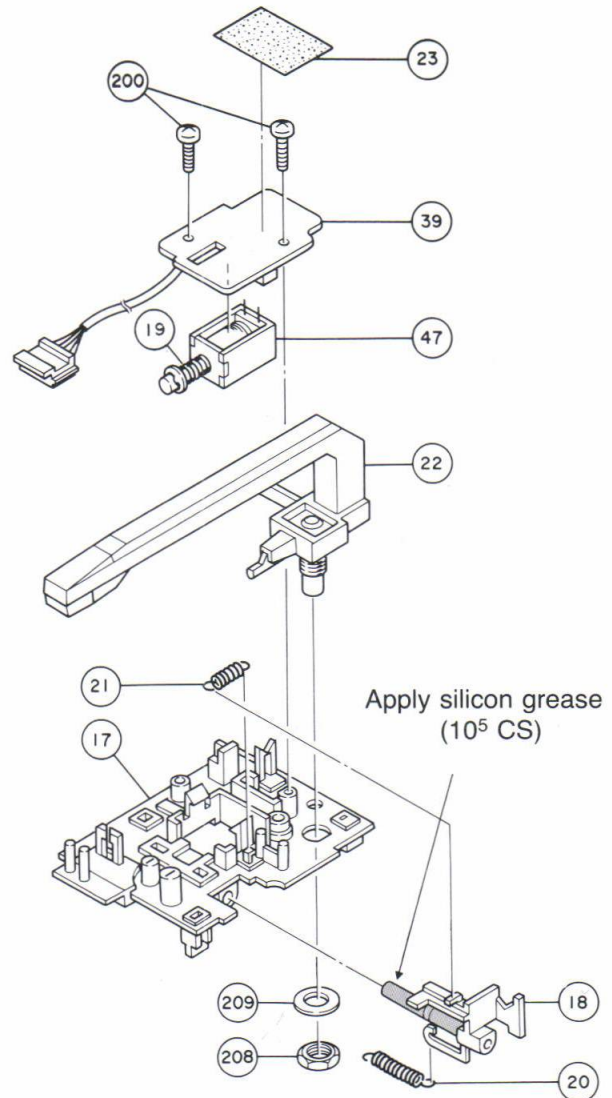

Fig. 13
**(A) Assembly of Bracket Ass'y (17) (Figure 13)**
1. Apply silicon grease (105 CS) to the Lifter Arm (18) and attach it to the Bracket Ass'y (17).
2. Attach Spring A (21) and Spring B (20) to the Bracket Ass'y (17) and Lifter Arm (18).
3. Install the Solenoid Coil (47). (Spring (19) is in the solenoid coil shaft.)